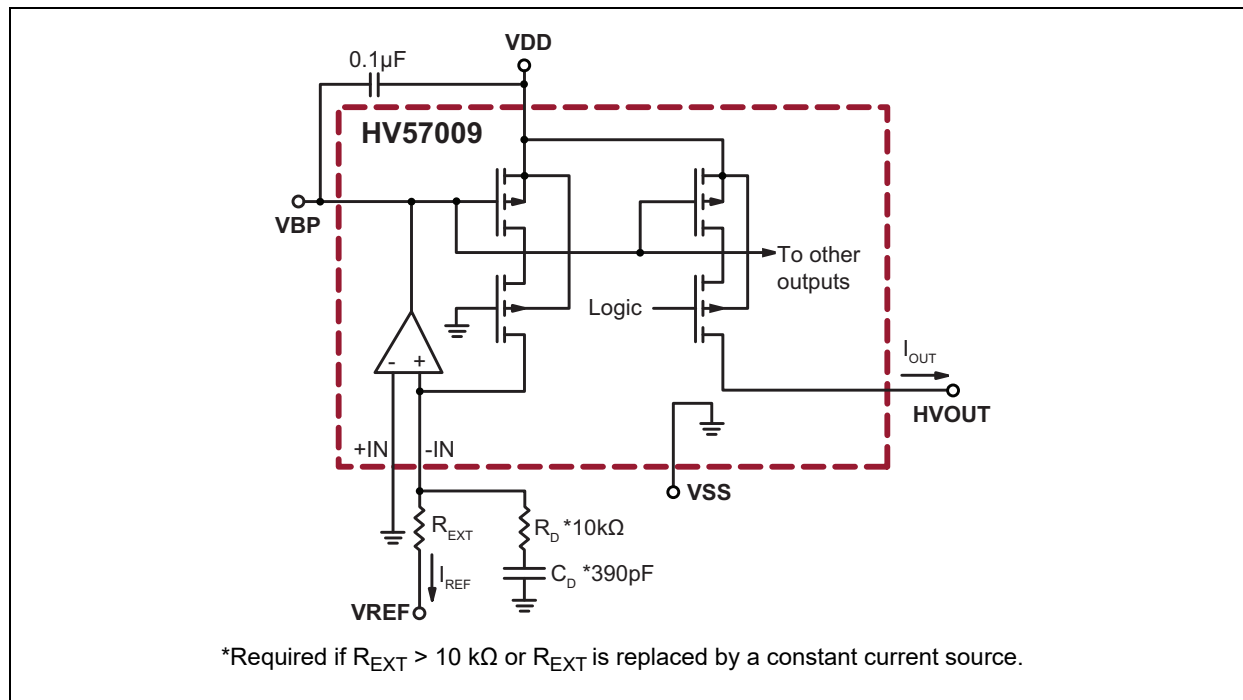
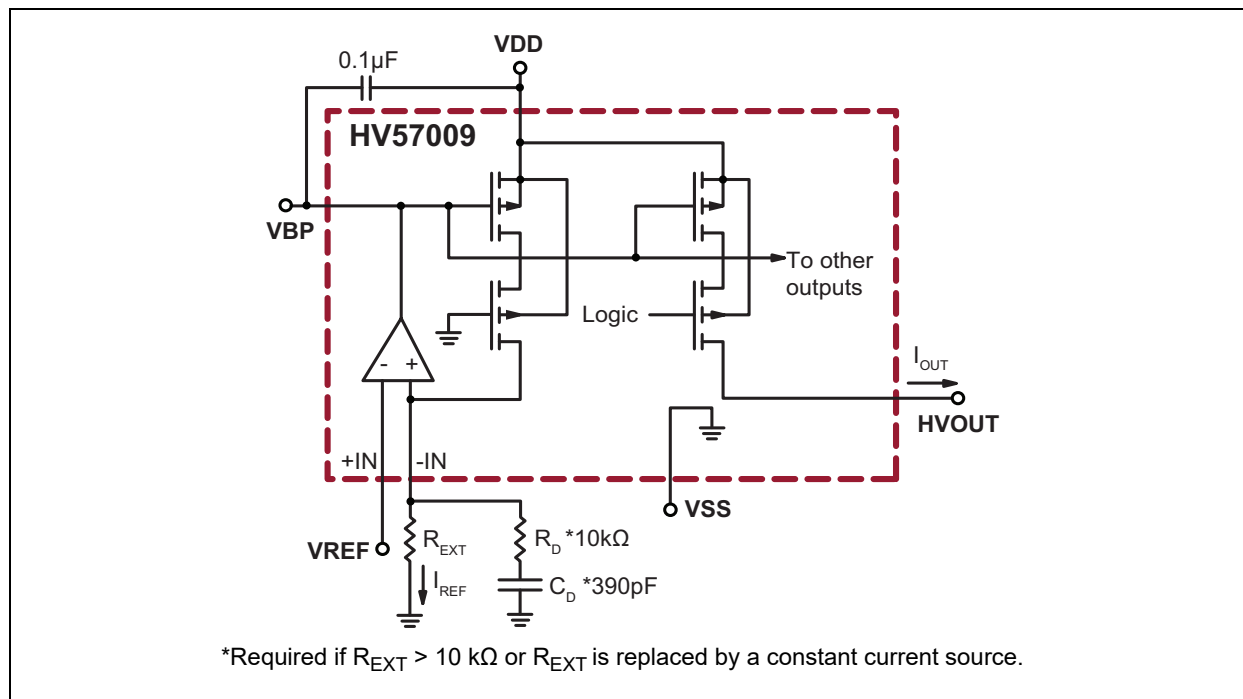

FIGURE 3-3: Negative Control Circuit.
FIGURE 3-4: Positive Control Circuit.
2: 0.1 μF capacitor is needed between VDD and VBP (pin 40) for better output current stability and to prevent transient cross-coupling between outputs. See Figure 3-3 and Figure 3-4.
- 2:** 0.1 μ F capacitor is needed between VDD and VBP (pin 40) for better output current stability and to prevent transient cross-coupling between outputs. See Figure 3-3 and Figure 3-4.
2: 0.1 μ F capacitor is needed between VDD and VBP (pin 40) for better output current stability and to prevent transient cross-coupling between outputs. See Figure 3-3 and Figure 3-4.
Figure 3-3 and Figure 3-4 show the programming circuits to control the high-voltage output current limit. A reference current I_{REF} is set by the external resistor R_{EXT} and reference voltage V_{REF} . The current mirror formed by the matching transistors uses the reference current to cap the maximum allowed current at the high-voltage output. The relationship between I_{OUT} and I_{REF} are shown in Equation 3-1 and Equation 3-2.
If $R_{EXT} > 10 \text{ k}\Omega$, add series network R_D and C_D to ground for stability as shown in Figure 3-3 and Figure 3-4.
The intersection of a set of I_{OUT} and V_{REF} values can be located in Figure 3-5. The value picked for R_{EXT} must always be in the shaded area for linear operation. This control method has the advantage that V_{REF} is positive and draws leakage current only. If $R_{EXT} > 10 \text{ k}\Omega$, add series network R_D and C_D to ground for stability as shown in Figure 3-3 and Figure 3-4.